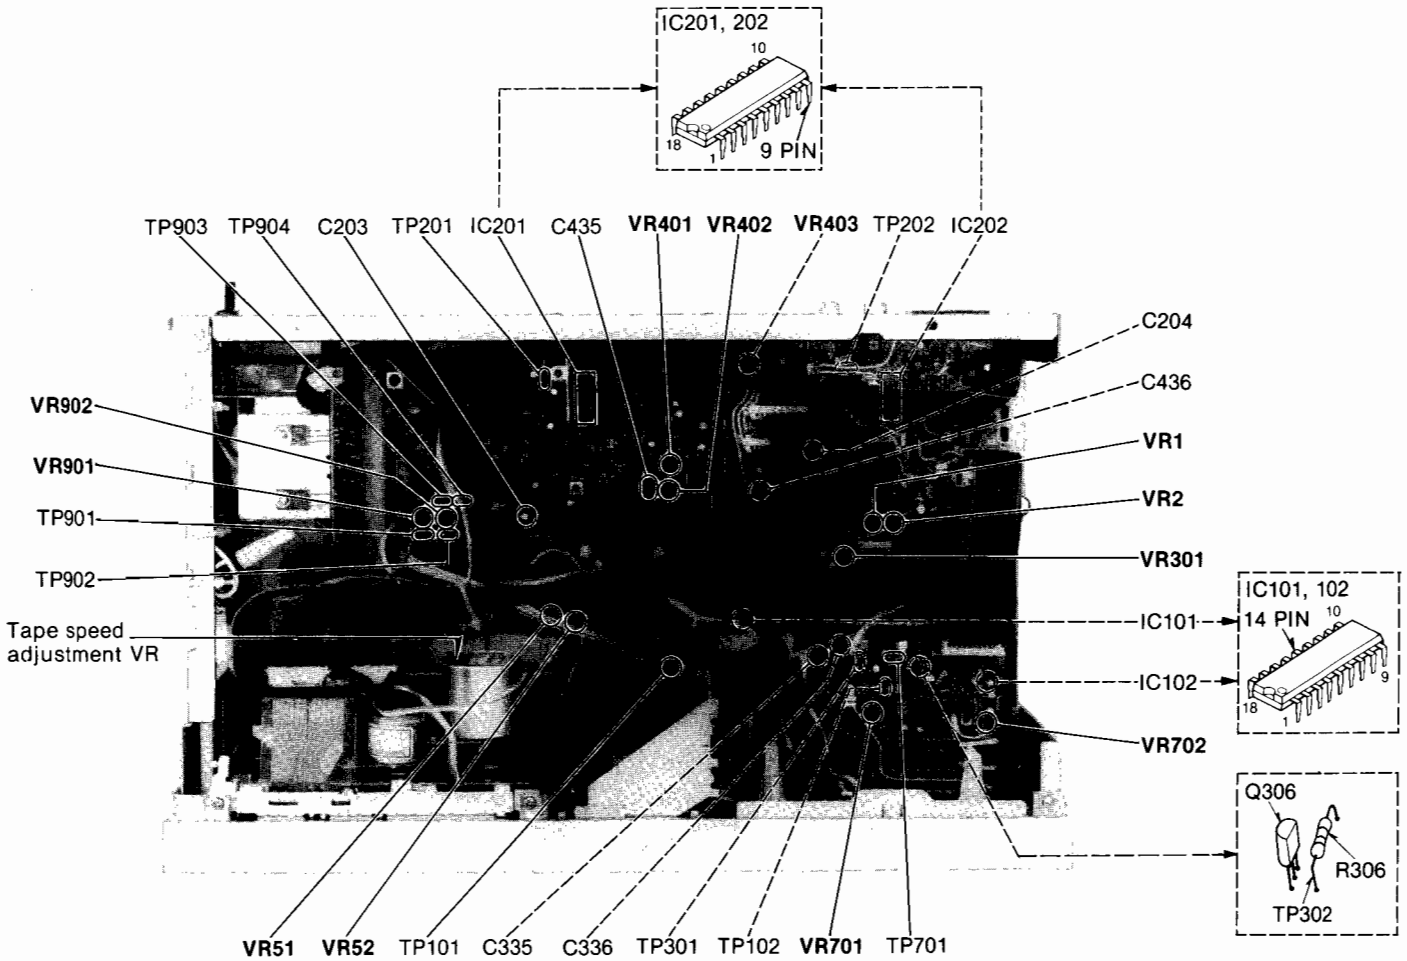
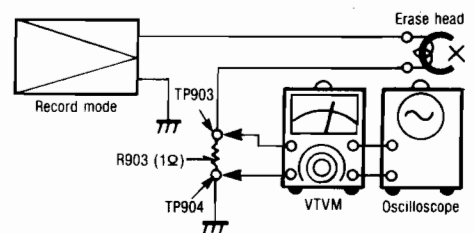

Fig. 1
Fig. 11
6. If measured value is not within the standard value, adjust it by using the tape speed adjustment VR shown in Fig. 1.
1. If the measured value is not within the standard, adjust VR1 (L-CH) or VR2 (R-CH) (See fig 1).
⑥ Erase current
1. Test equipment connection is shown in fig. 11.